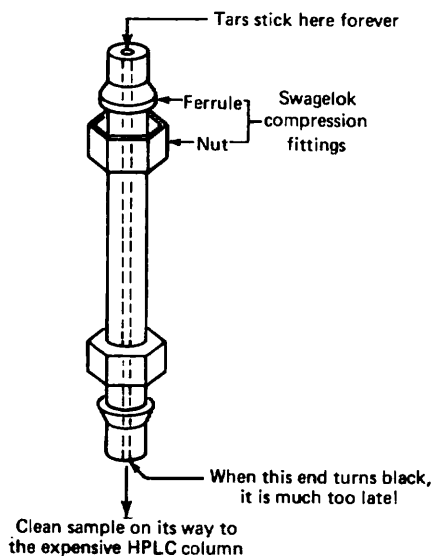

Fig. 146 The precolumn filter.
2. **The precolumn filter** (Fig. 146). Add a tiny column, filled with exactly the same material as the main column, and *let this small column get contaminated*. Then unscrew it, clean out the gunk and adsorbent, and refill it with fresh column packing. The disadvantage is that you don't really know when the garbage is going to poison the entire precolumn filter and then start ruining the analyzing column. The only way to find out whether you have to clean the precolumn is to take it out of the instrument. You really want to clean it out long before the contaminants start to show up at the precolumn exit.